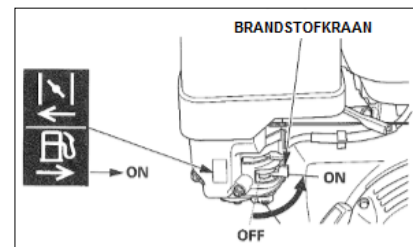

Figure: 26
- Open the fuel shut-off (see figure 26).